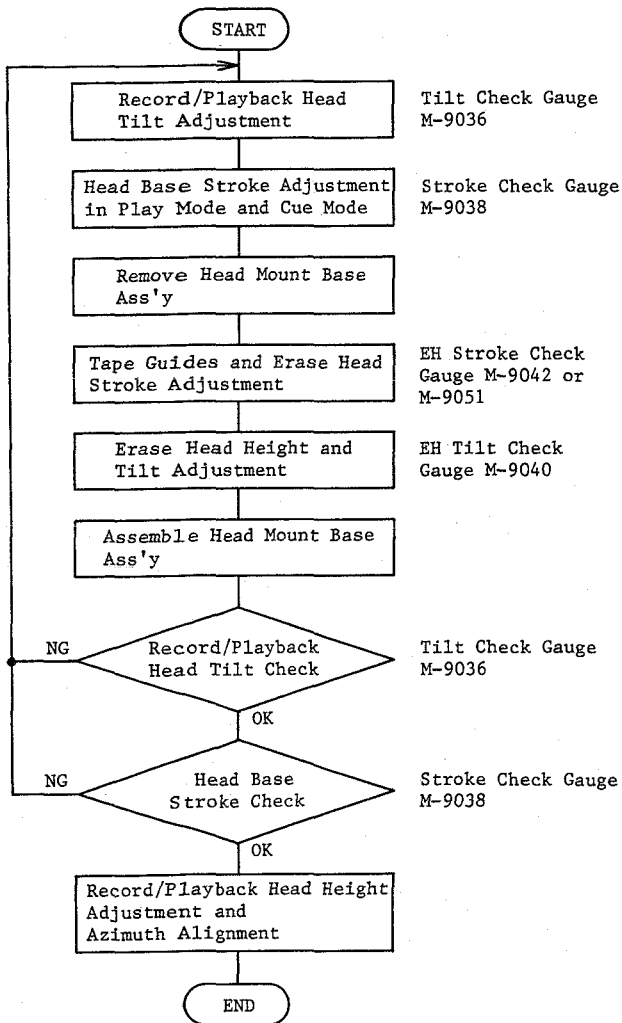

Fig. 5.4
On items 5.3 — 5.7, please refer to Fig. 5.4 flow chart.